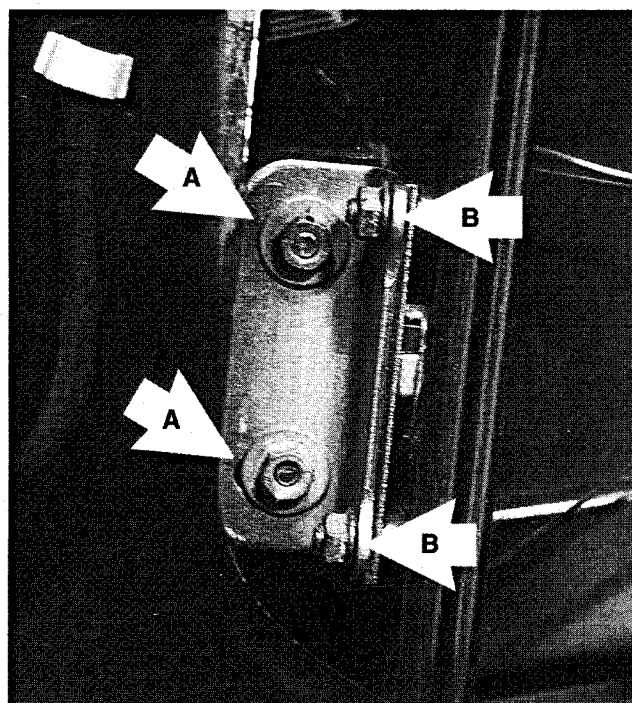

Fig. 10. Window rear guide bracket nuts **A** to be removed. Loosen nuts **B** to allow bracket room to swivel out of the way.
7. Raise window to about 10 in. (250 mm). If necessary, temporarily reconnect battery cable. Remove guide bracket mounting nuts and remove bracket. See Fig. 10.